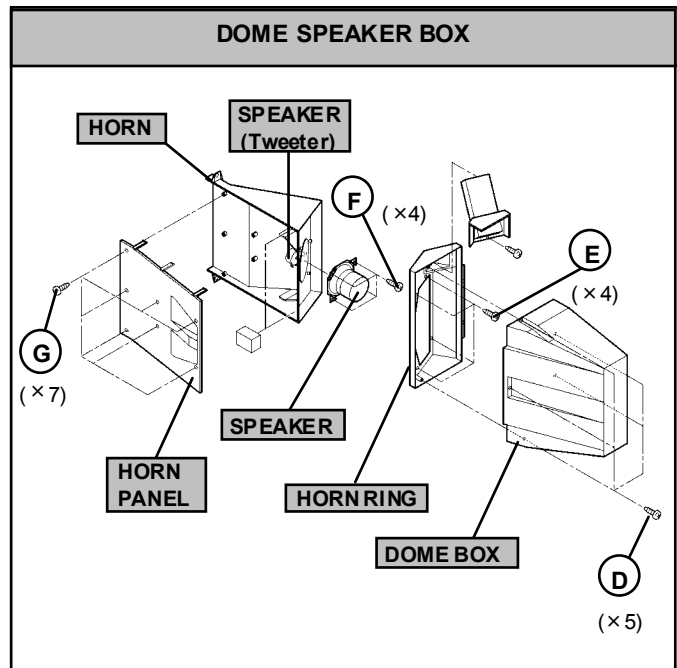

Fig. 2
2. Remove the 5 screws marked **(D)** as shown in the Fig.2, then remove the dome box.
3. Remove the 4 screws marked **(E)** as shown in the Fig.2, then remove the HONE RING.
4. Remove the 4 screws marked **(F)** as shown in the Fig.2, then remove the speaker.
1. Remove the 7 screws marked **(G)** as shown in the Fig.2, then remove the HONE PANEL.